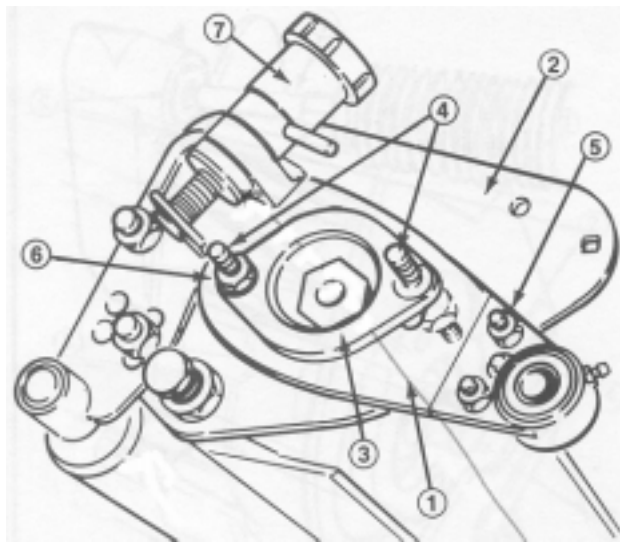

Figure 11
11. Install the right hand groomer plate assembly onto the right reel frame plate (Fig. 11) as follows:
A. Disassemble the adjustment knob assembly and separate the mounting block from the assembly (Fig. 11).
C. Insert the studs through the adapter, install spacers on the studs and insert the studs through the grooming reel sideplate (Fig. 11). While installing the assembly, slide the right groomer plate bearing over the groomer shaft. Using a stud driver or double nuts, install the assembly to the cutting unit bearing housing. Torque the studs to 17–21 ft-lb.
E. Thread flange locknuts onto each stud. These eventually will be use to mount the reel drive motor (Fig. 11).
14. Repeat steps 10 and 11 on the opposite side. Assemble both adjustment knobs assemblies. Apply grease to threads on locking knob assemblies and tighten large nuts (Fig. 11).